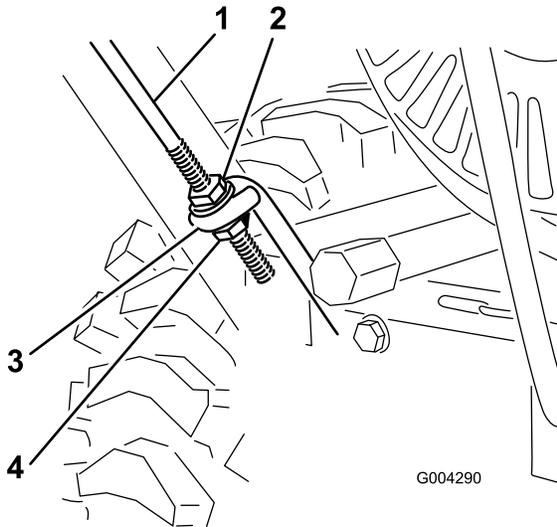

Figure 4
1. Axle pin (2)
2. Cap screw and curved washer (4)
- Thread a flange nut (not the flange locknut) with the flange down onto the traction rod attached to the left side of the handle (Figure 4).
- Position the left side of the handle against the side of the snowthrower and insert the end of the traction rod through the lower traction rod loop (Figure 4).
1. Thread the flange locknut (flange side up) onto the bottom of the traction control rod, below the loop in the lower traction rod (Figure 4).